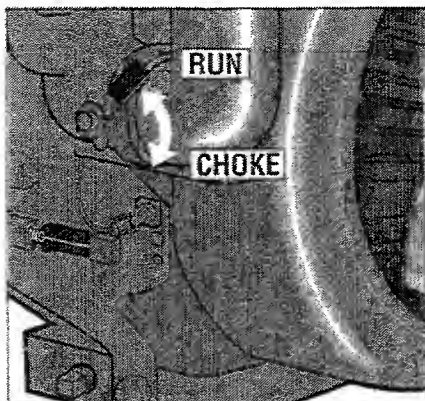
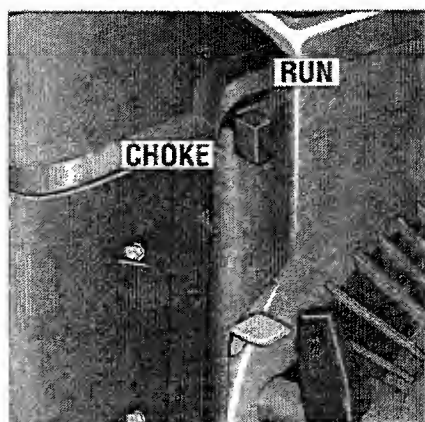

Figure 4-5: Choke Control Lever on the 7HP engine. Down for CHOKE; up for RUN.
Figure 4-6: Choke Control Lever on the 8HP IP engine. Left for CHOKE; right for RUN.
8. On the 7HP engine, move the Choke Control Lever down to the CHOKE position (see Fig. 4-5). On the 8HP IP engine, put the Choke Control Lever in the CHOKE position (see Fig. 4-6). **Note:** Use of the CHOKE position may not be necessary if the engine is still warm from recent operation.